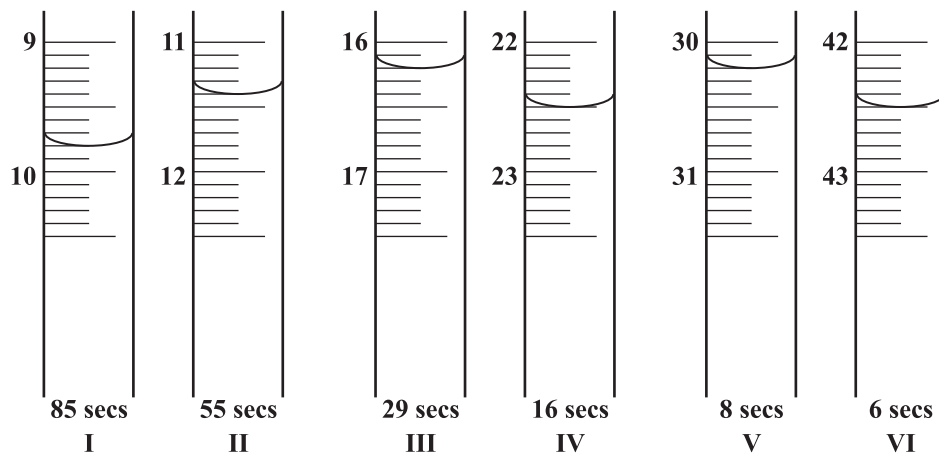

Figure 1
2. A student is required to investigate the rate of reaction in which a fixed mass of magnesium metal (0.12 g) is added to different volumes of  $1.5 \text{ mol dm}^{-3}$  hydrochloric acid. The acid is added from a burette and water added to make the final volume of  $50 \text{ cm}^3$ . The time taken for the magnesium ribbon to disappear is recorded. Figure 1 below shows the burette reading for the volume of acid added and the time taken for the magnesium to disappear for each reaction. The initial burette reading is always  $0.0 \text{ cm}^3$ .
- (a) From the results shown in Figure 1, construct a table to show experiment number, volume of acid added from the burette, volume of water added to the acid, and the time taken for the magnesium to disappear.